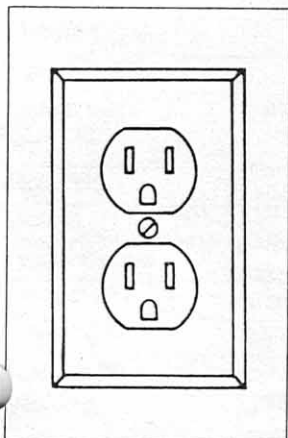

Figure 1 —
4. **Ground the machine.** Proper grounding of the machine is essential to eliminate the hazard of electrical shock to the operator. (Not required on 220V. Double Insulated machines.) The machine is equipped with an approved power cord and three-prong plug for use in a properly grounded three-prong electrical receptacle. (Fig. 1)